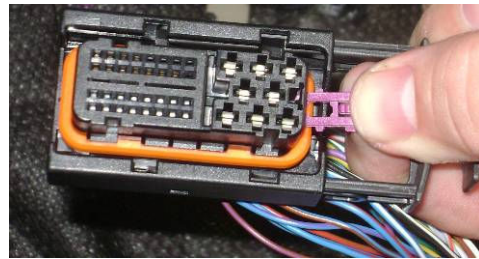

FIGURE 2
3. Remove the TOP CAP (see figure 2) by pushing upward on the cap using a flat screw driver